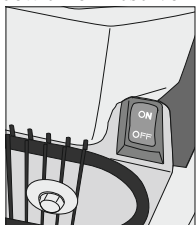
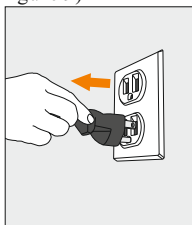

Figure 7
Figure 8
5.1 Turn off Hot Tank Switch (Hot & Cold models only) and disconnect power supply cord. (Figure 7 and Figure 8)